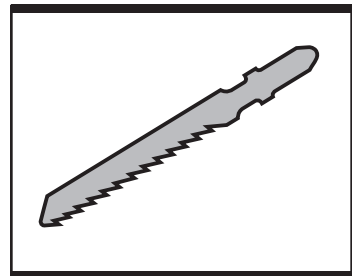
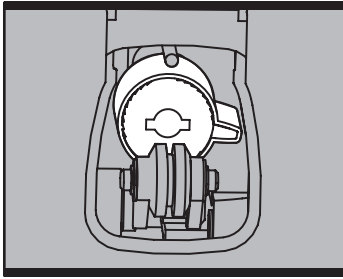

Fig 4
Fig 5
You can only use the blade type shown in Fig 4. To open the blade holder (6) rotate the ring counter-clockwise (Jigsaw upside down) and hold in position (See Fig 5). Then fully insert the blade into the blade holder slot with blade teeth facing forward and release the ring, which will self rotate and clamp over the top of the blade. Push the blade into the blade holder again to ensure it is locked